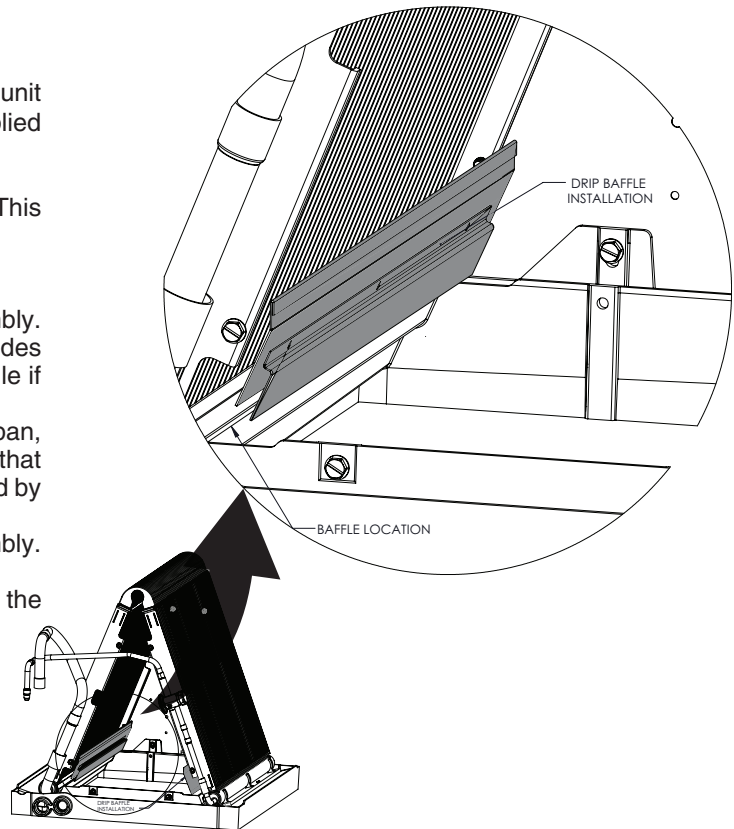

Figure 1. Drip Baffle Installation
5. Firmly press the baffles over the edge of the drain pan, do one at the time (See Figure 1). **NOTE:** Make sure that the baffles are firmly in place and will not be dislodged by airflow. Two baffles per unit, one on each side.
NOTE: Figure 1 shows the correct baffle orientation and installation location on the left side of drain pan. Baffle orientation is mirrored on the right side of the drain pan.